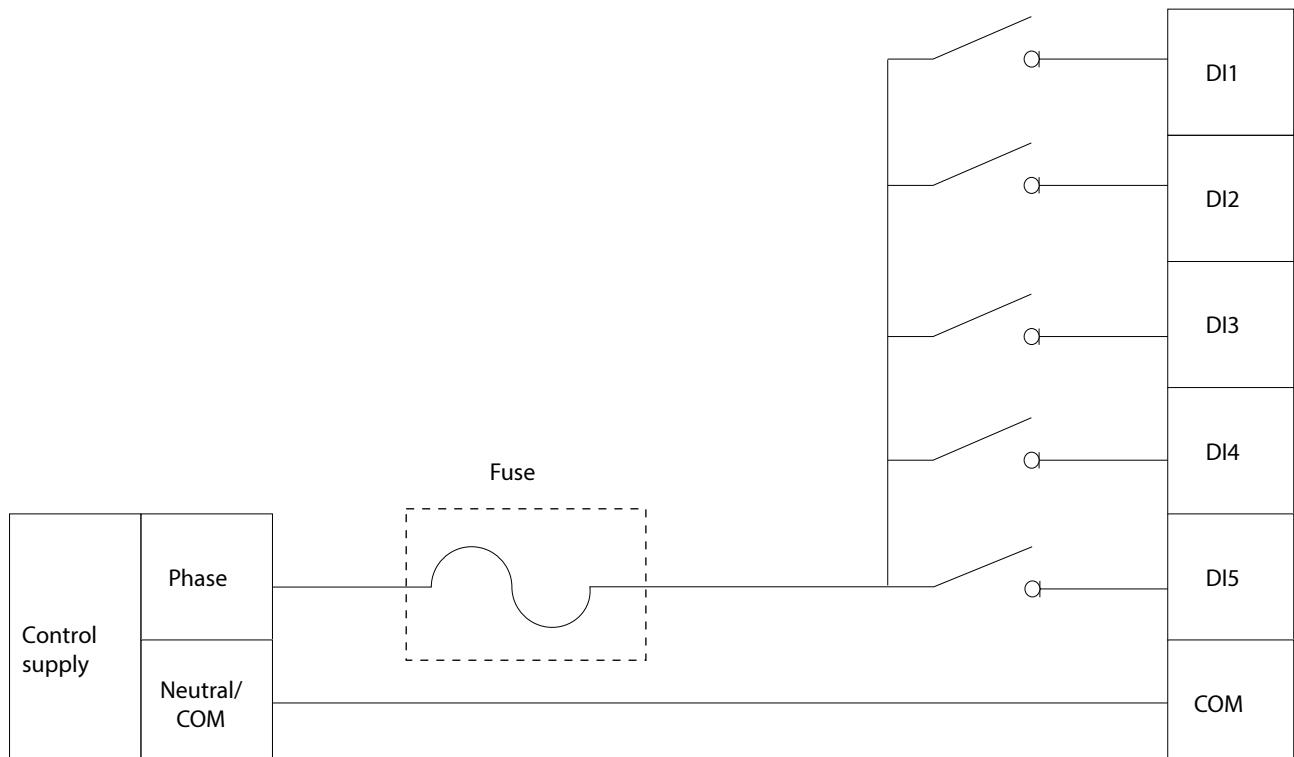

Figure 58: Wiring Configuration for Operation 2000–4400 m (6560–14400 ft) Altitude using 5 Inputs
- All 5 inputs can be used, if the inputs are connected to 230 V or floating, and the same phase must be used for all inputs. Inputs must not be connected to alternate or neutral phase. See Figure 58.